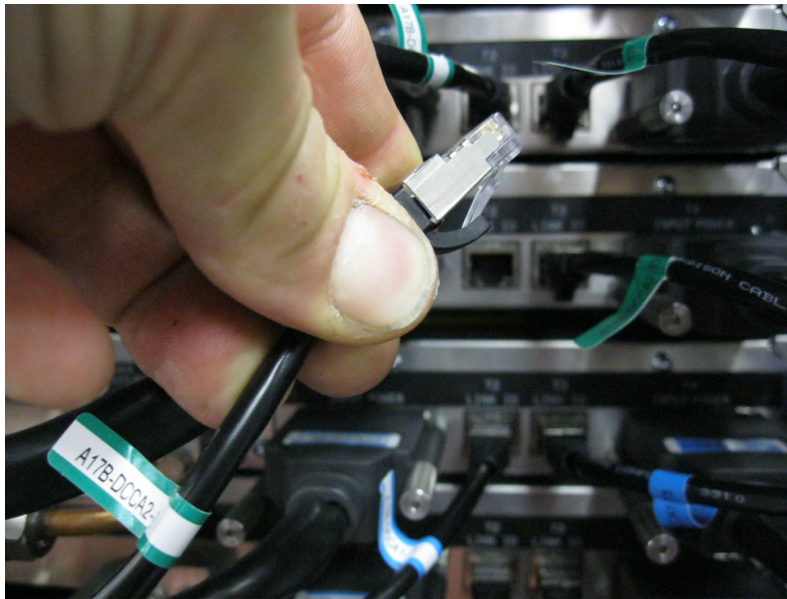

Figure 9 Typical Communications Cable
- c) Record the information on the plugging designation label flag on the cable for future reference. (see photo in Figure 9 below)